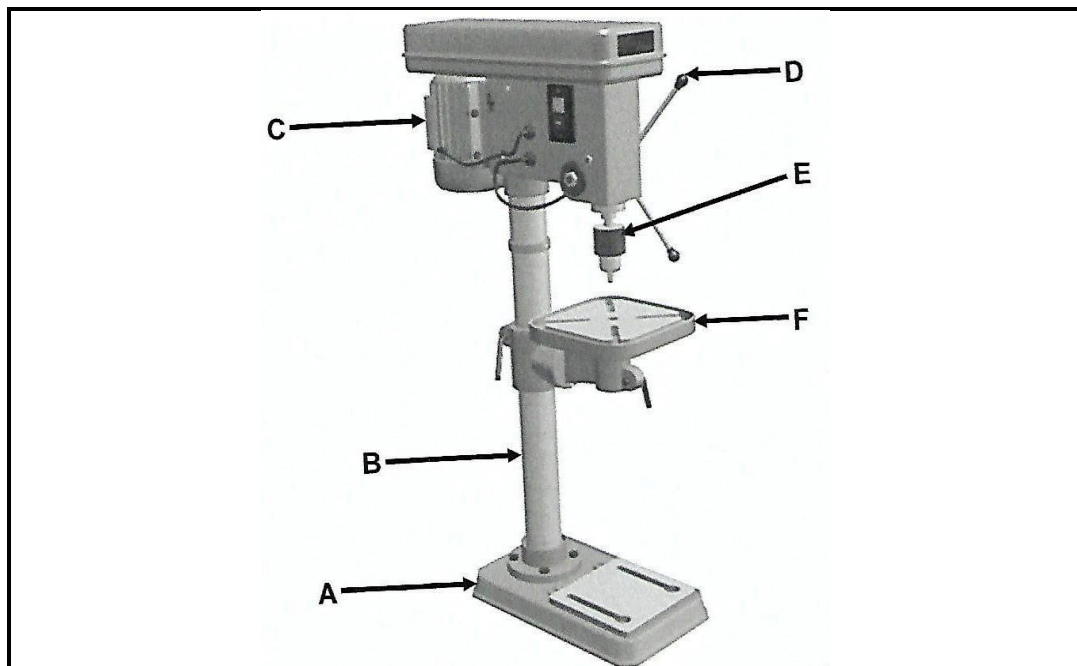

FIGURE 3.1
- 3.1 The diagram in FIGURE 3.1 below is a machine tool commonly used in a workshop. Answer the questions that follow.
- 3.1 3.1.1 Identify the machine tool diagram in FIGURE 3.1 above. (1)
- 3.1.3 Give any THREE operations that can be done with the machine in FIGURE 3.1 above. (3)